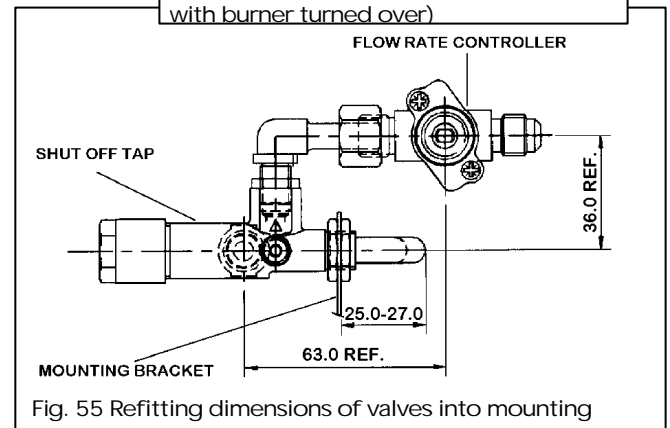

Fig. 55 Refitting dimensions of valves into mounting
13.11.8 If fitting a new tap, remove the hexagonal nut at the mounting bracket end of the old tap and fit to the replacement tap. Prior to refitting the elbow to the shut-off tap, apply an approved sealant to the elbow thread. Refit in the reverse order. Refer to figure 55 to ensure accurate refitting dimensions of the valves and subsequently into the mounting bracket. When refitting, make sure that the tap spindle is in the correct relationship relative to the control pivot bracket. Rotate the pivot bracket fully clockwise. The tap spindle should "bottom out" (i.e. the tap should be fully open) after the pivot bracket has actuated the ignition microswitch but before it has pushed the microswitch leaf against the microswitch body.